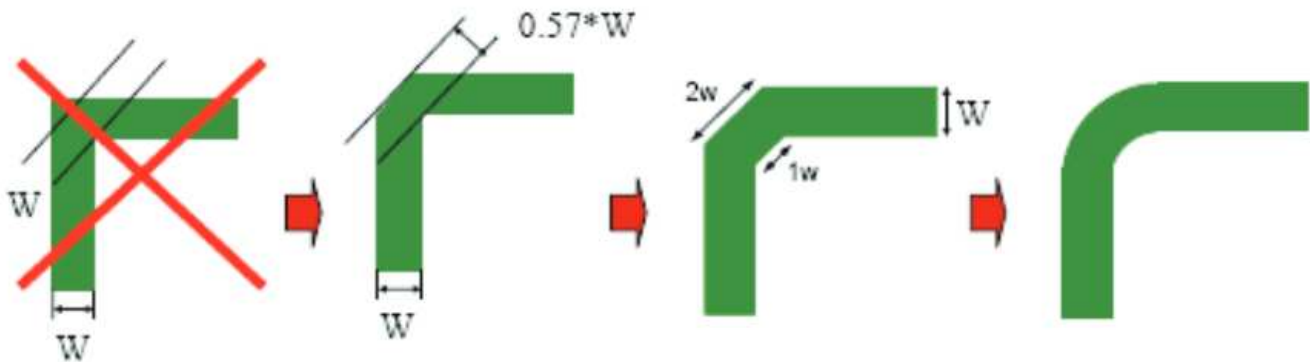

FIG 23. Poor and Good Right-Angle Bends
- Avoid right-angle bends in a trace and try to route them at least with two 45° corners. To minimize any impedance change, the best routing would be a round bend (see 图 23).